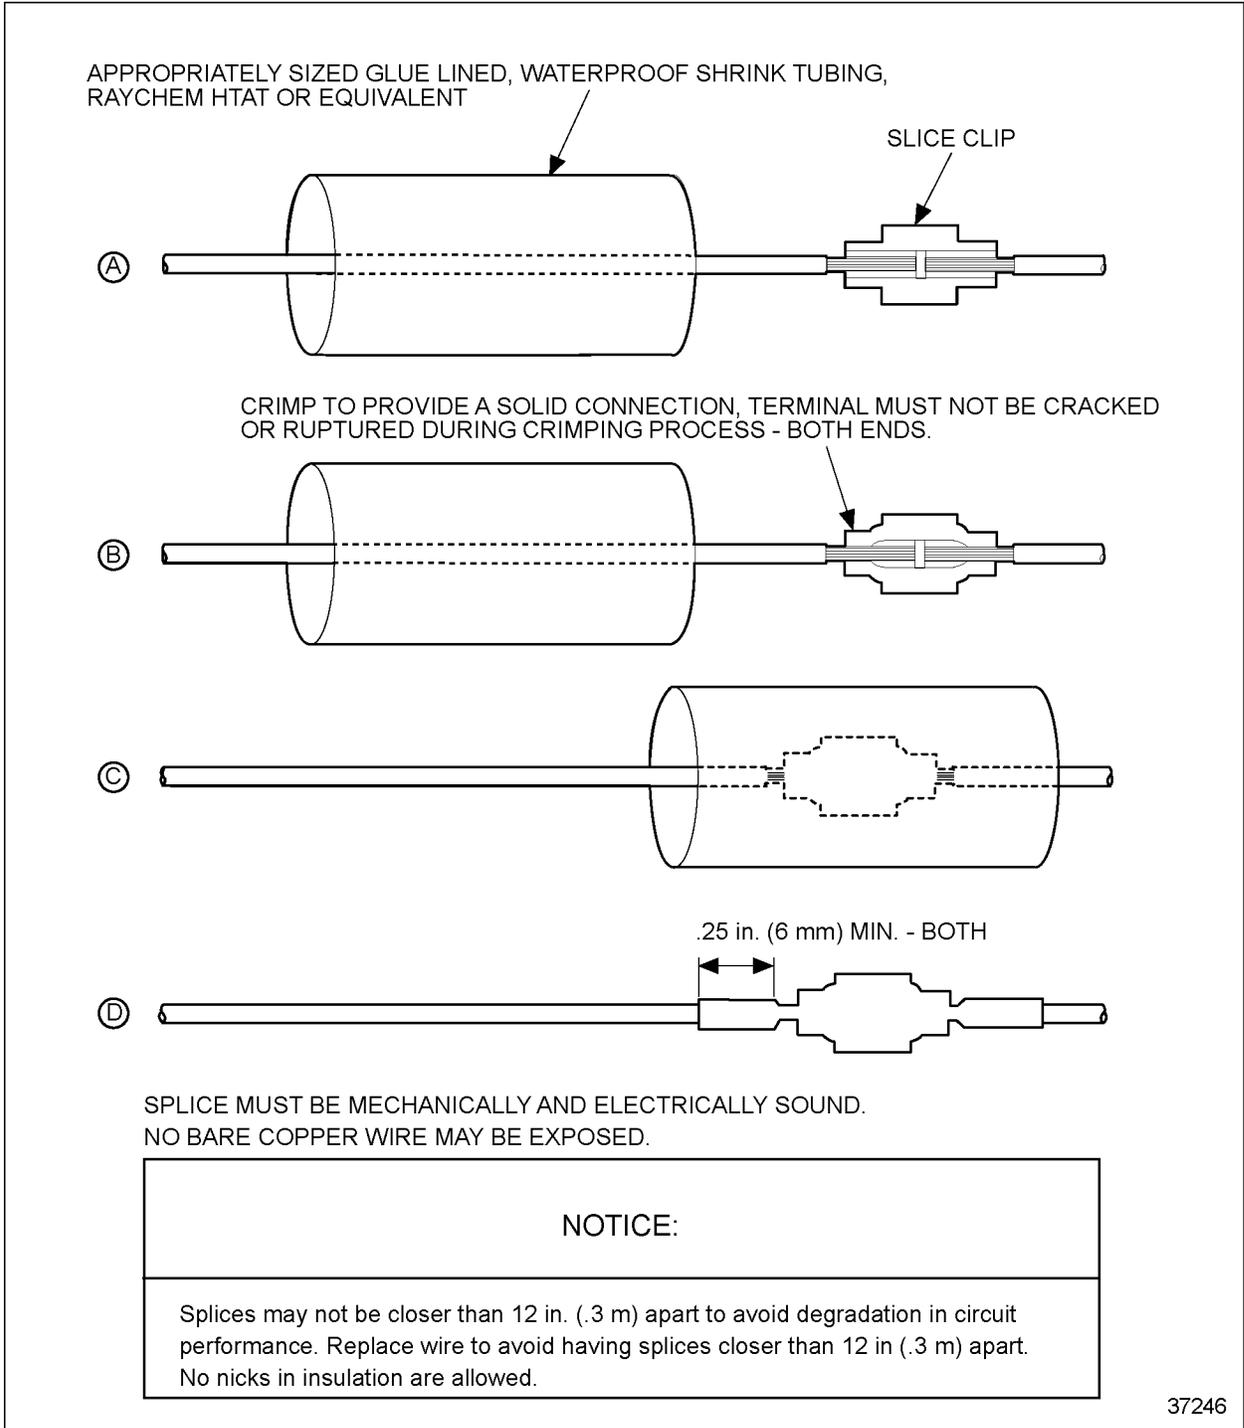

Figure 3-63 Splicing Straight Leads - Alternate Method 2
3. Slide a sleeve of glue lined, shrink tubing (Raychem HTAT or equivalent) long enough to cover the splice clip on the wire and overlap the wire insulation, about .25 in. (6 mm) on both sides (see Figure 3-63, A).
4. Insert one wire into splice clip until it butts against the splice clip. Stop and crimp (see Figure 3-63, B).
5. Insert the remaining wires into the splice clip one at a time until each butts against the splice clip; stop and crimp (see Figure 3-63, B).
7. Slide the shrink tubing over the crimped splice clip (see Figure 3-63, C).
8. Shrink tubing with a heat gun to seal the splice (see Figure 3-63, D).